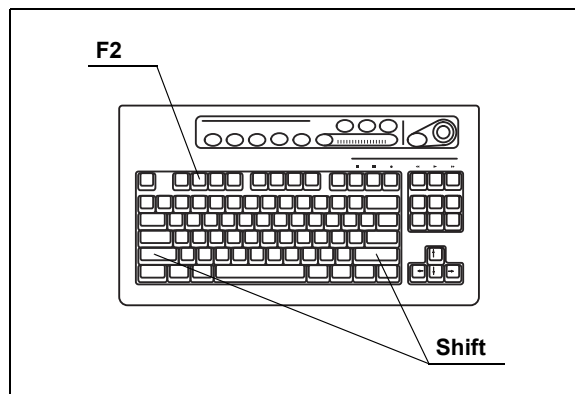

Figure 4.7
1. Press the “Shift” and “F2” keys together. The “User preset” menu appears on the monitor (see Figure 4.7).